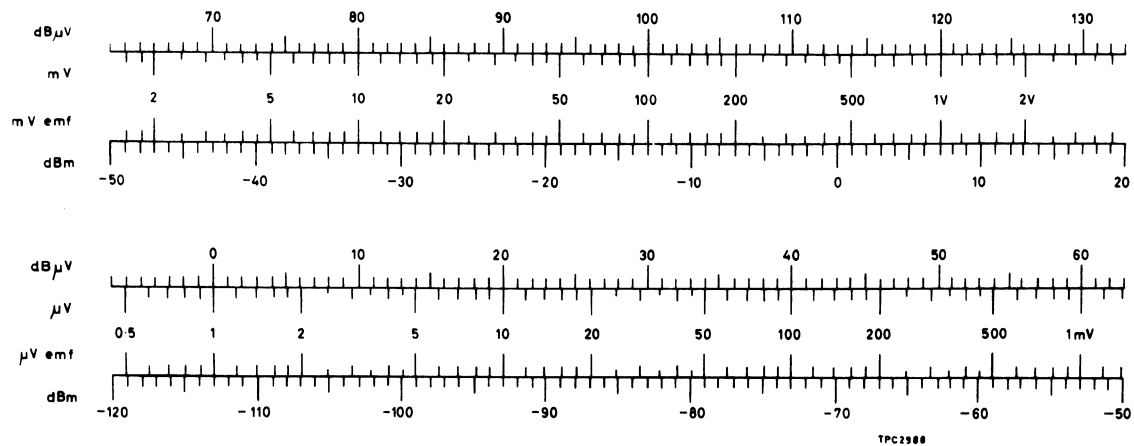

Fig. 3 Output conversion scale.
14. The RF OUTPUT controls (coarse and fine attenuators) are calibrated in V e.m.f. Where dB μ V or dBm levels are to be used refer to the conversion scale shown in Fig. 3.